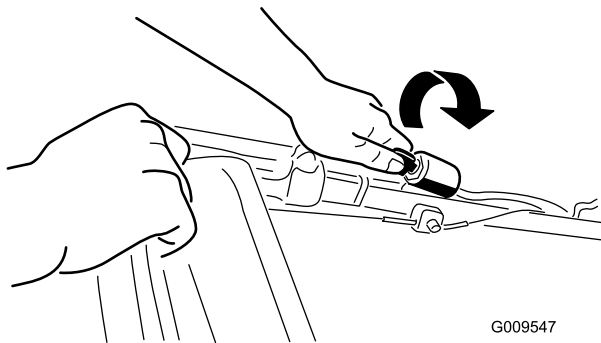
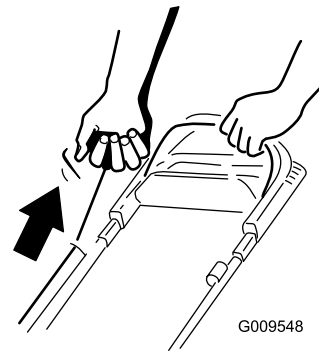

Figure 14
Figure 15
2. Turn the ignition key (Figure 14) (electric-start models only) or pull the recoil start handle (Figure 15).
**Note:** When you pull the recoil start handle, pull it lightly until you feel resistance, then pull it sharply (Figure 15). Allow the rope to return to the handle slowly.